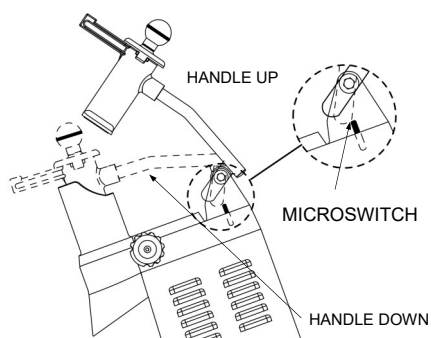

Fig 3: Pusher Arm Interlock
- a) On the pusher arm, if the pusher is lifted over the mouth of the feed chute (Fig 3)